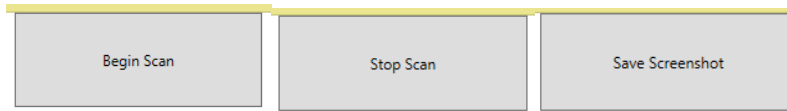

Figure 34: 'Begin Scan' 'Stop Scan' and 'Save' Buttons
- ⑥ **Begin Scan, Stop Scan and Save:** To commence a live scan, select the 'Begin Scan' button. Upon selection an A-Scan trace will appear on the main window. To stop scan, click on the correspondent icon as well as for save a screenshot (Figure 34)